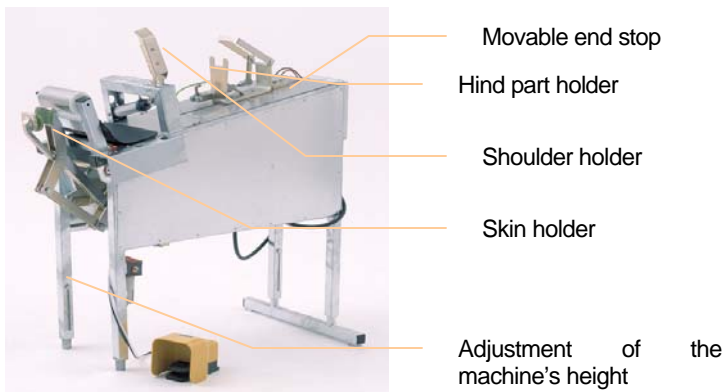

Figure 3. Skinning Machine
- Start by pulling the skin off the hind part of the mink. Now put the hind part of the body into the upper holder (hind part holder) figure 3, belly down.
In order to achieve the optimal ergonomic work posture for the operator the skinning machine has been designed with height adjustable legs. The height can be adjusted through the 4 bolts shown in figure 3., and can be adjusted to between 98 and 117 cm measured at the supporting roller.
- The skinning machine should be cleaned every day with compressed air and maybe hot water, where there is a lot of blood. Especially the movable parts at the skin holder figure 3 have to be kept free from sawdust and dirt. It is likewise important in order to avoid unintended interruptions to keep the space under the movable hind part holder clean. This can be done with hot water and a thin filling knife.